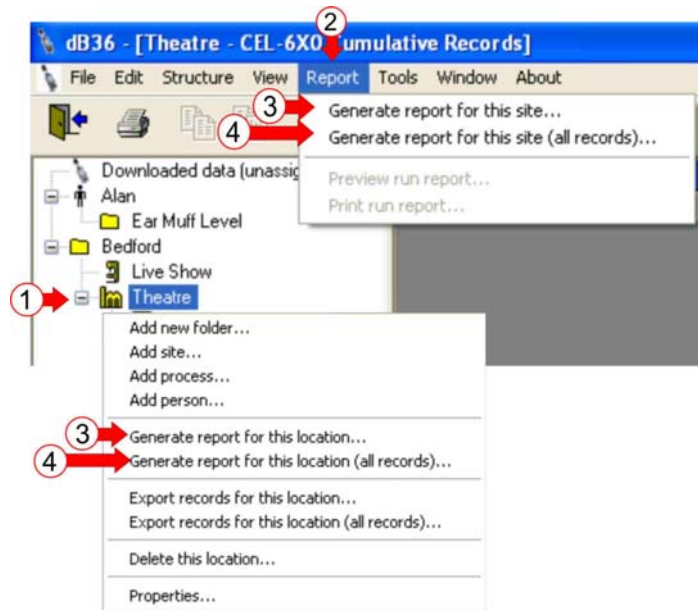

Figure 44 Generate Multiple Reports
B. GENERATE MULTIPLE RUN REPORTS (Refer to Figure 44)